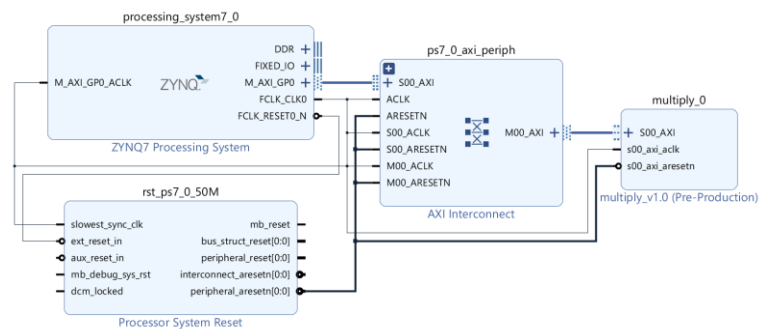

Figure 7: Layout of the Design
- (a) Now, select the Vivado window which has the PS system. Open the diagram tab and add 'multiply' or the 'multiply_v1.0' IP to the PS system. Select 'Run Connection Automation' and in the prompted window select 'All Automation' and click 'OK'. Once automation is completed, a layout is generated. Right click on the diagram and select 'Regenerate Layout' to re draw the layout design. The layout is shown in Figure 7. A 'Processor System Reset' block is also created which synchronizes the peripheral and interconnect reset to clock.